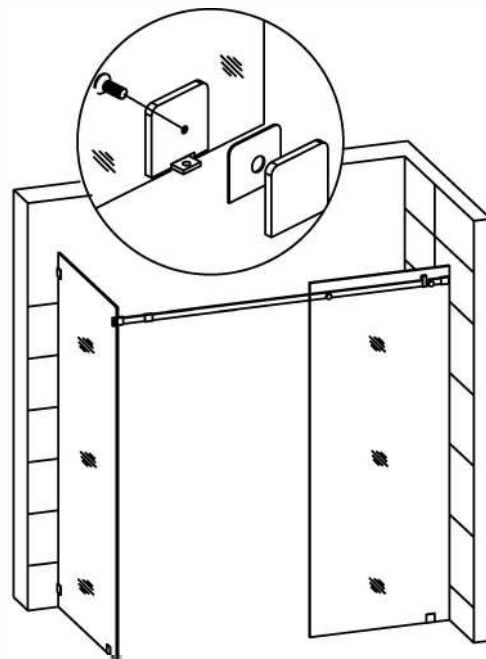

Fig. 22
See Fig.22 for details.
29. Position the Sliding Door Track Divider (8) into position as seen in Fig.22 and mark the 2 shower base hole positions.
Note: In Fig.22 the hole locations for attaching sliding door track divider should be $1 \frac{3}{16}$ " from edge of Large Fixed Glass (3).